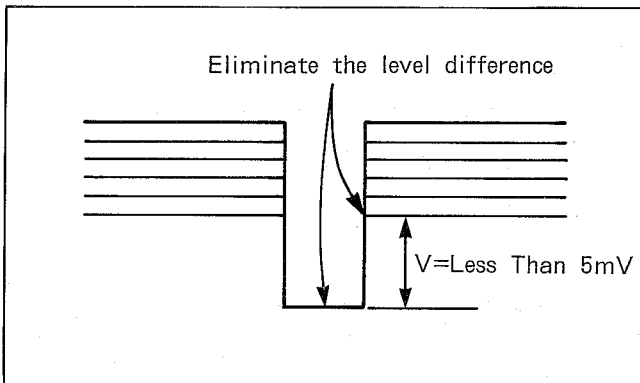

Fig. C23
6. Push "INC" or "DEC" so that V level becomes less than 5mV as shown in Fig.C23.